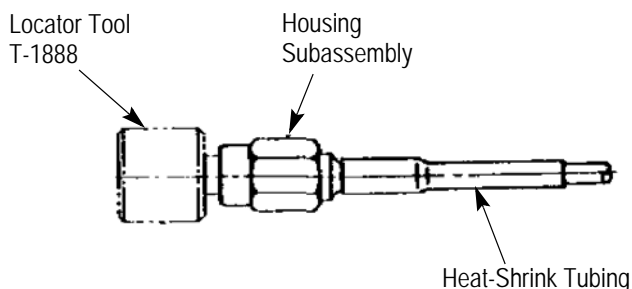

Figure 6
### 2.4. Shrink Heat-Shrink Tubing to the Cable (Figure 6)
1. Position the heat-shrink tubing over the ferrule as shown in Figure 6.